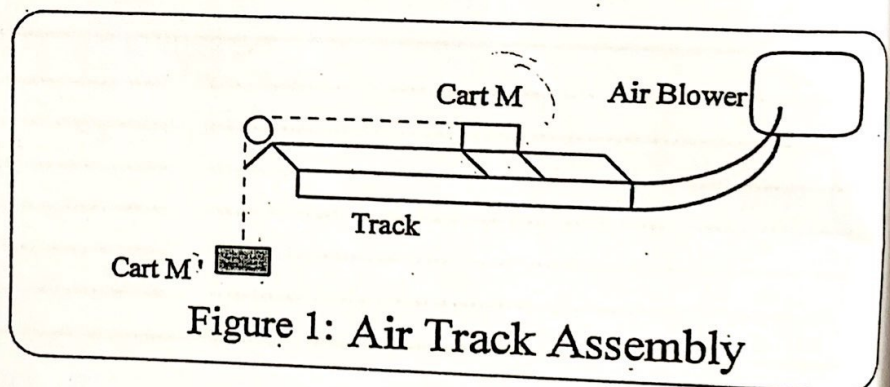

Figure 1: Air Track Assembly
Figure 1 is a schematic(drawing) of the apparatus. Objects traveling on the track are levitated (lifted) via the action of the air blower. Motion is caused by objects (M) pulled down by gravitational attraction. The figure does not show the timer circuits used to measure  $t$  and  $\Delta t$ .
For the arrangement shown in figure 1, the objects will experience a constant force and hence a constant acceleration.